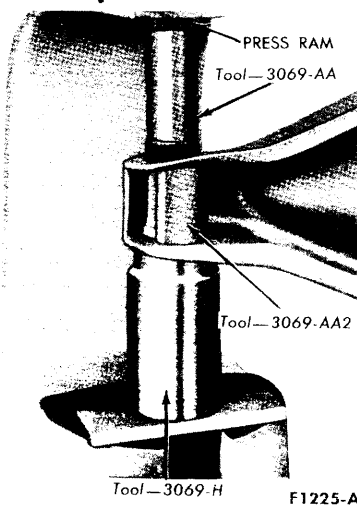

FIG. 7—Removing Lower Arm Bushing
2. Press the bushings out of the arm with tool 3069—details H, AA, and AA2 (Fig. 7).